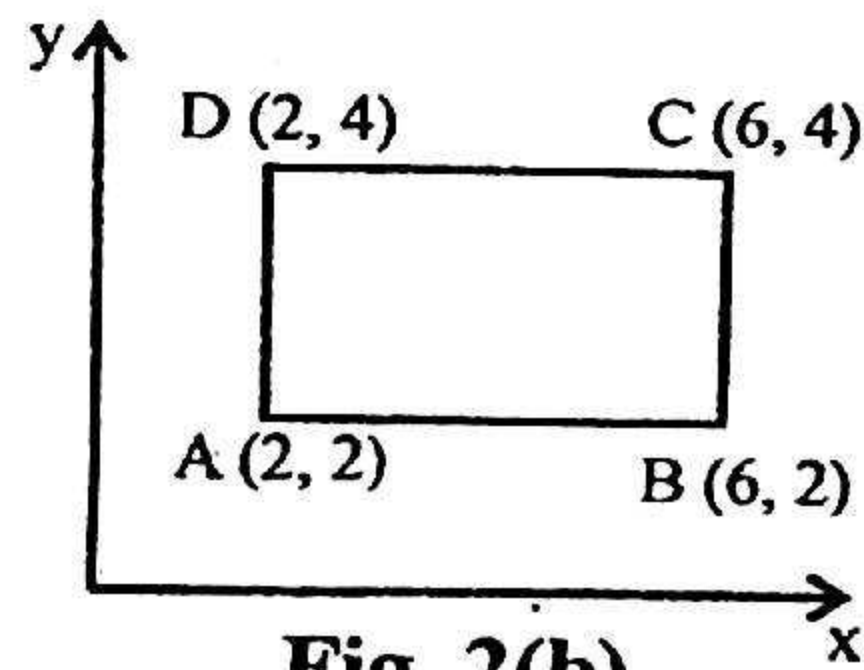

Fig. 2(b)
1. (a) State various CAD softwares available in the market. Explain how CAD softwares help for Education and Training applications. (4)
- (b) Explain conventional design process. Also explain how this process is modified when we use CAD process. (5)
- (c) A raster display of 800×1024 resolution has 60 Hz frequency. Find time required to scan each pixel and a horizontal line. (4)
2. (a) Write an algorithm to generate line using Bresenham's principle. (7)
- (b) Write shear transformation of rectangle ABCD show in Fig. 2(a) in x-direction by 2 units and y-direction also by 2 units. (6)